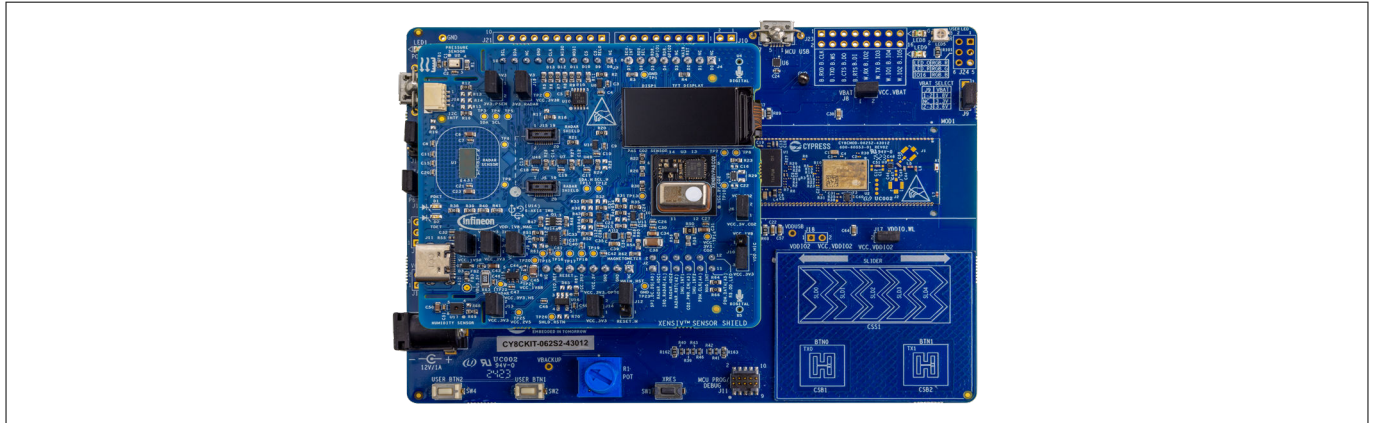

Figure 2 SHIELD_XENSIV_A XENSIV™ sensor shield connected with CY8CKIT-062S2-43012
1. Connect the SHIELD_XENSIV_A XENSIV™ sensor shield to the baseboard kit (CY8CKIT-062S2-43012) as shown in Figure 2